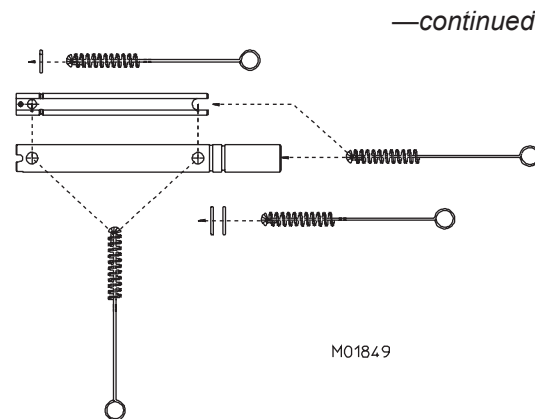

Figure 6-6
- b. The mix feed tube and o-rings as shown in figure 6-6.